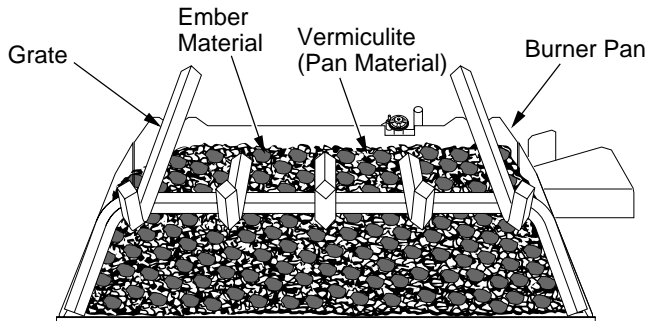

Figure 20 - Ember Material on Surface of Pan Material (Vermiculite) (P325E/VP325E Model Shown)
3. Remove the ember material from the bag and flatten small amounts into quarter size pieces and lay on top of the surface of the pan material (see Figure 20).